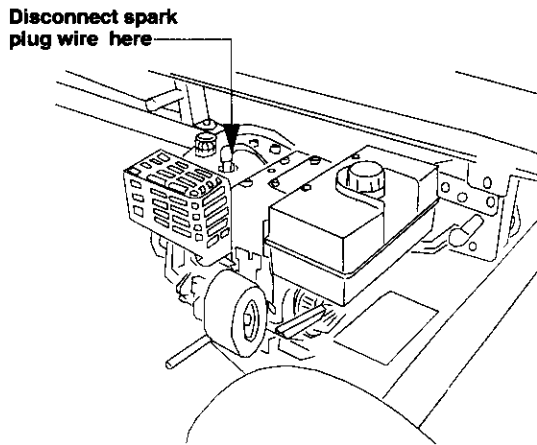

Figure 1
- Before you start the assembly procedure, disconnect the spark plug wire from the spark plug on the log splitter engine and move the wire away from the spark plug. This will prevent accidental starting. See Figure 1.